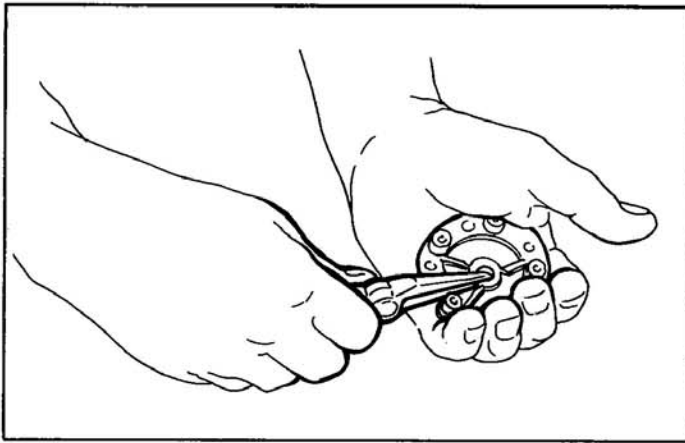

Fig. 6
11. With a needle-nose pliers, grip the center washer of the backing plate, as in Fig. 6. Using a twisting motion, break the washer out of the plate.